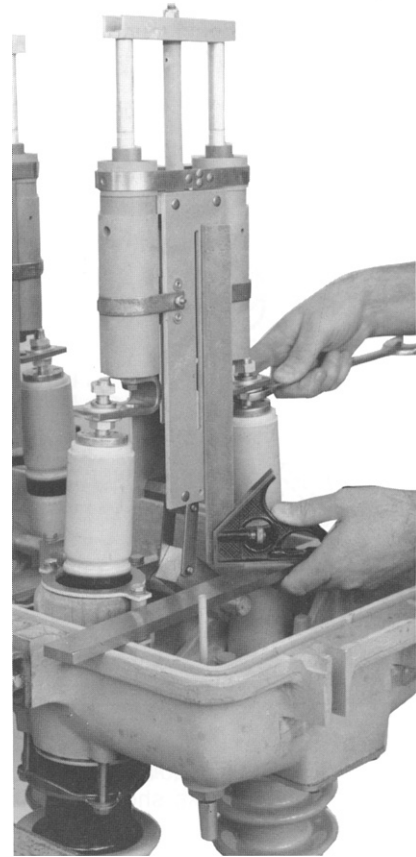

Figure 19.
8. Square contact housing with head casting bottom as shown in Figure 19.
9. Square contact housing with head casting bottom as shown in Figure 19.